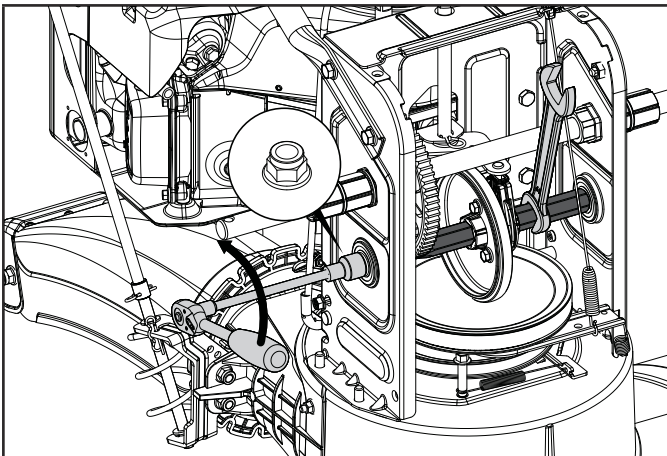

Figure 43
4. Carefully remove the M10 hex nut which secures the hex shaft to the snowblower frame (Fig. 43).